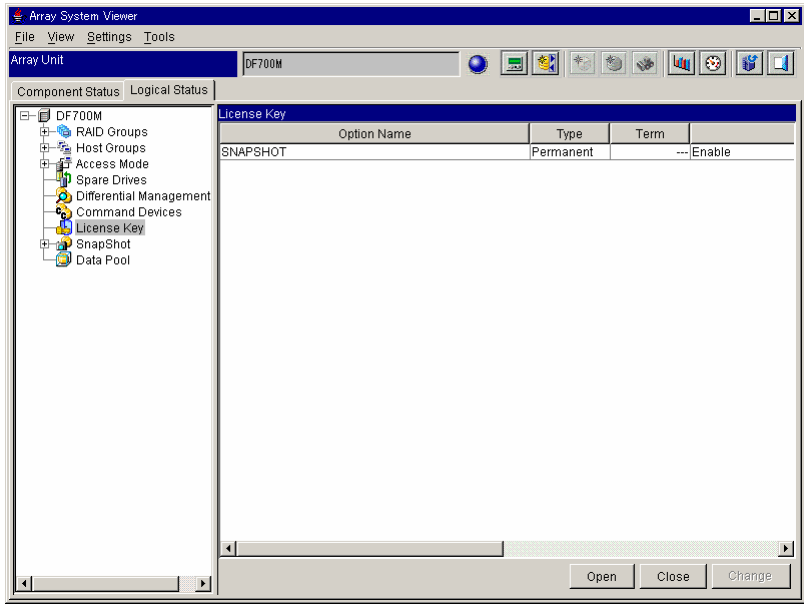

Figure 4.5 Array System Viewer Window (Logical Status Page Option: Enable)
4. Click **License Key** icon (see Figure 4.5).